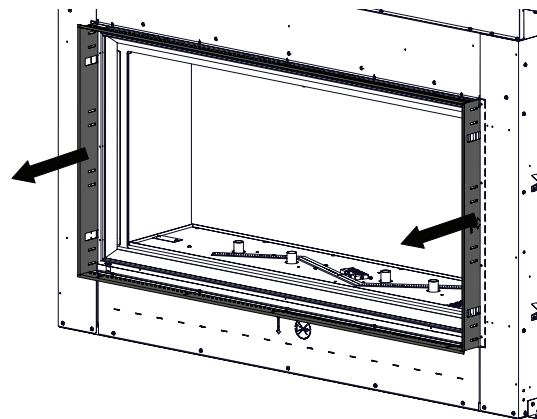

Fig. 2
2. Remove the finishing trim by removing the screws and sliding it out of the appliance (**Fig. 2**).